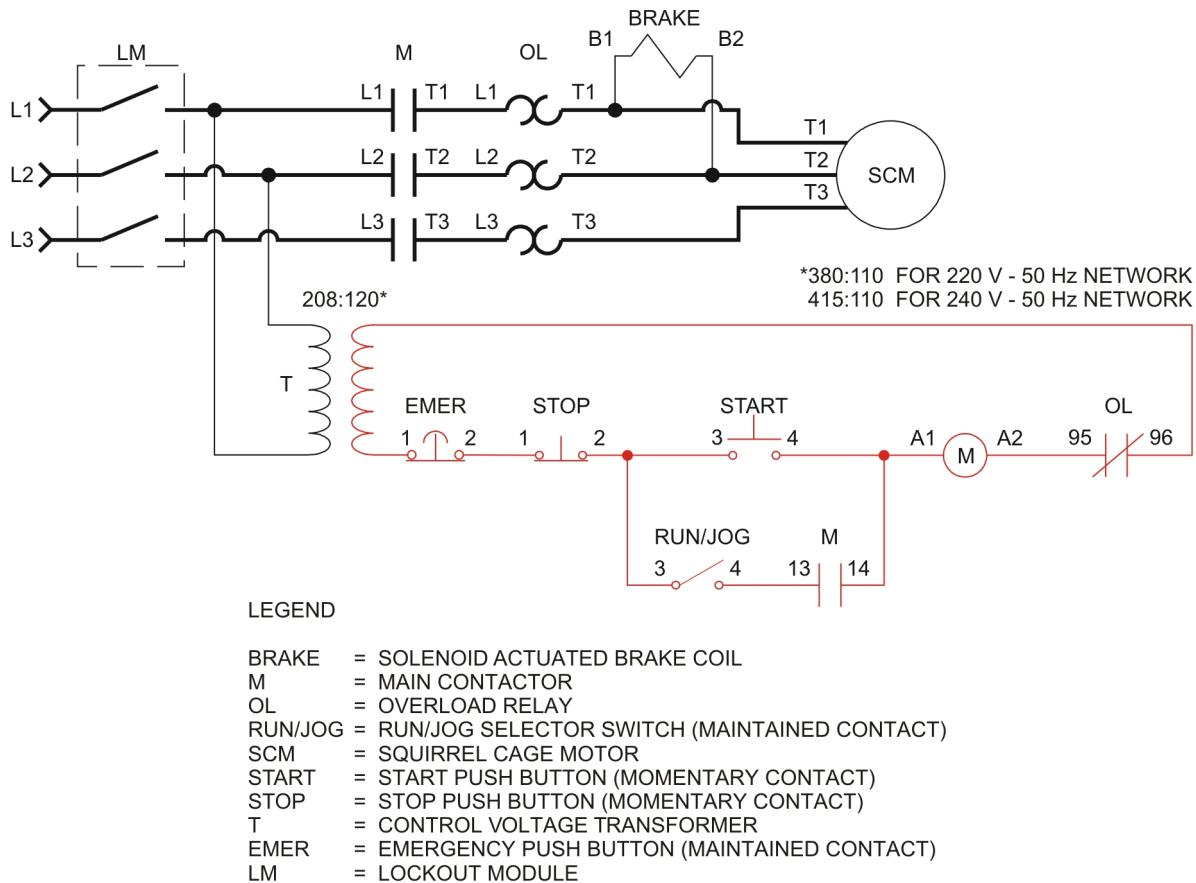

Figure 4-8. Jog/Run circuit with selector switch.
7. Connect the circuit shown in Figure 4-8. Use the SS-1 contact of the Selector Switches module.
Your client wants you to change the control circuit of Figure 4-8 to include three different push buttons: one for jogging, one for starting, and one for stopping.